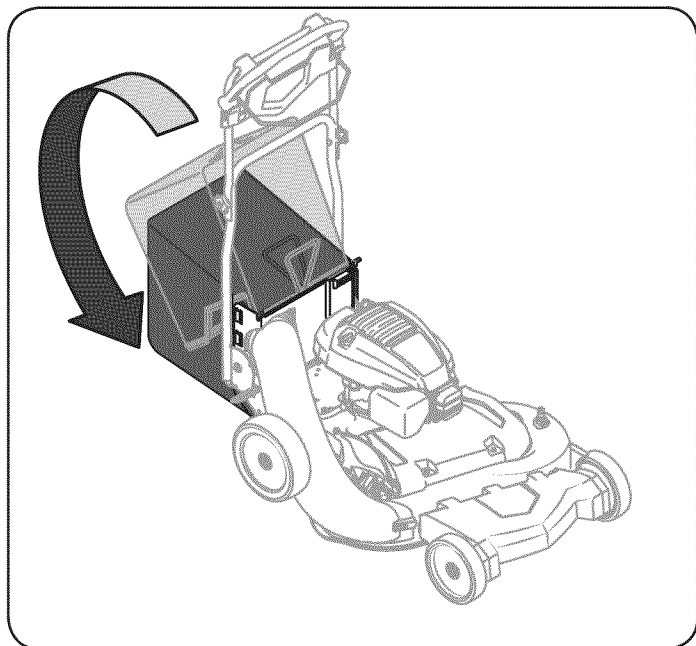

Figure 13
- Pivot the grass bagger down so that it rests over the rear opening of the mower. See Figure 13. Let go of discharge door so that it rests against the grass bagger.